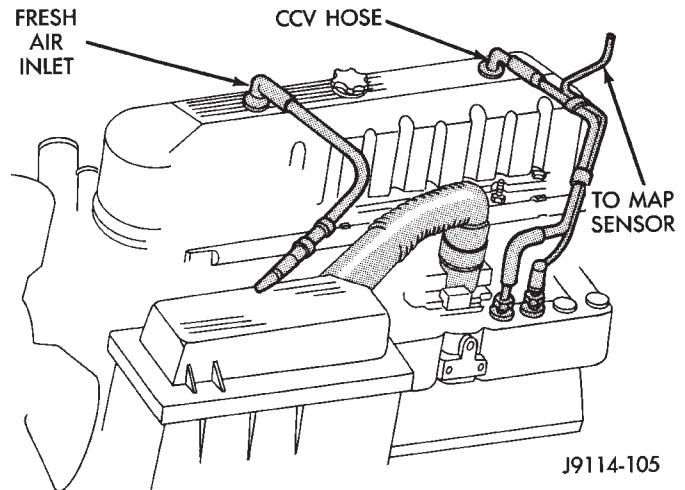

Fig. 1 Engine Cylinder Head Cover
- (1) Disconnect negative cable from battery.
- (2) Disconnect the Crankcase Ventilation (CCV) vacuum hose from engine cylinder head cover (Fig. 1).
- (3) Disconnect the fresh air inlet hose from the engine cylinder head cover (Fig. 1).
- (4) Remove the engine cylinder head cover mounting bolts.
- (5) Remove the engine cylinder head cover.
- (1) If a replacement cover is installed, transfer the CCV valve grommet and oil filler cap from the original cover to the replacement cover.
- (2) Install engine cylinder head cover. Tighten the mounting bolts to 10 N·m (85 in. lbs.) torque.
- (3) Connect the CCV hoses (Fig. 1).
- (4) Connect negative cable to battery.